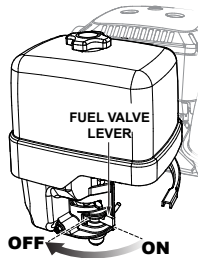

Figure 24. Fuel Valve Lever (OFF)
- Place the fuel shut-off lever (Figure 24) in the **OFF** position.